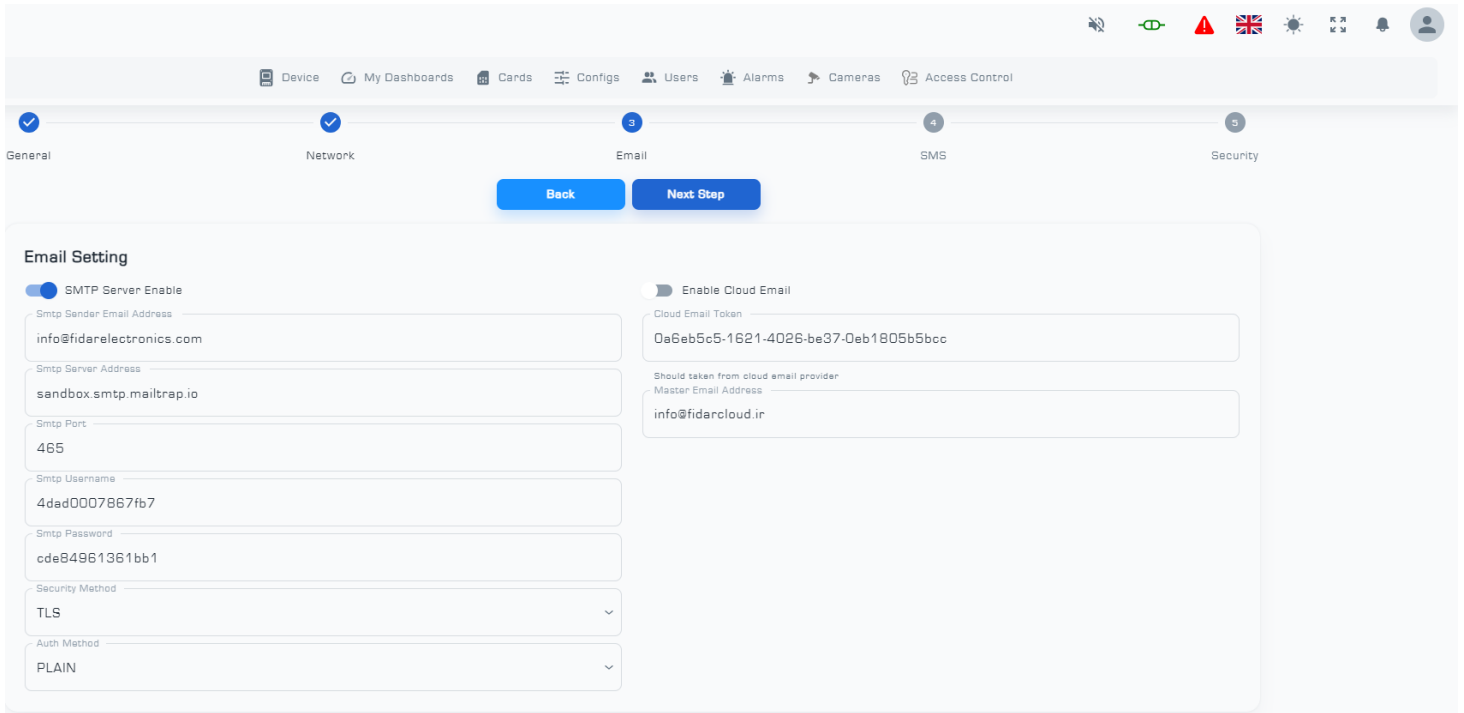

Figure 16: Email settings
- The third stage involves configuring email settings, including SMTP settings and cloud email services (Figure 16).